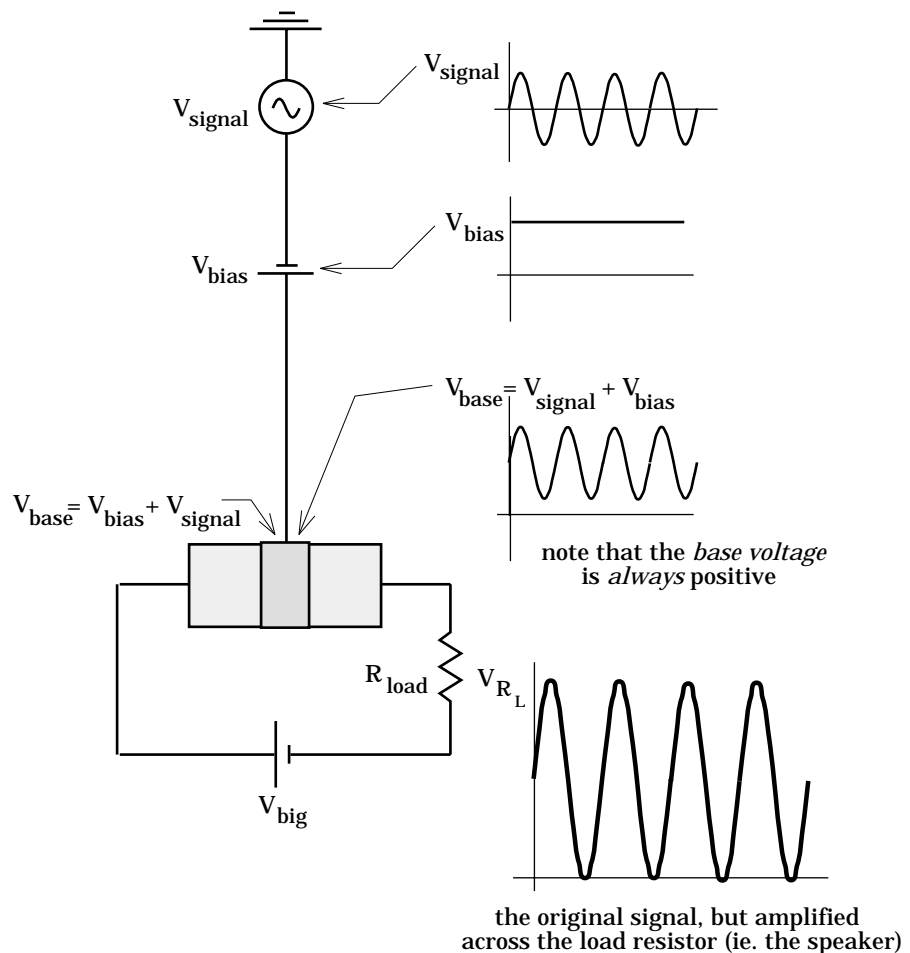

FIGURE 21.18d
b.) A bias battery V_b is connected to the base terminal in series with a small, AC signal V_s (this is the signal to be amplified). V_b is made greater than V_s making the base voltage (the sum of V_b and V_s) always positive (if this is not clear, look at Figure 21.18d--note that it has been rotated for easier viewing and that the graphs of the signal voltage V_s , the bias voltage V_b , the net base voltage V_{base} , as well as the net voltage across the load resistor V_R , are all shown in the sketch).